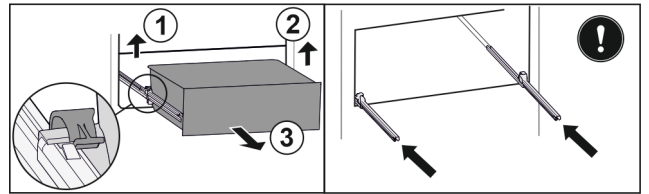

Fig. 38
- Lift left clamp and simultaneously pull drawer forwards on the left. Fig. 38 (1)
- Lift right clamp and simultaneously pull drawer forwards on the right. Fig. 38 (2)
- Remove drawer to the front. Fig. 38 (3)